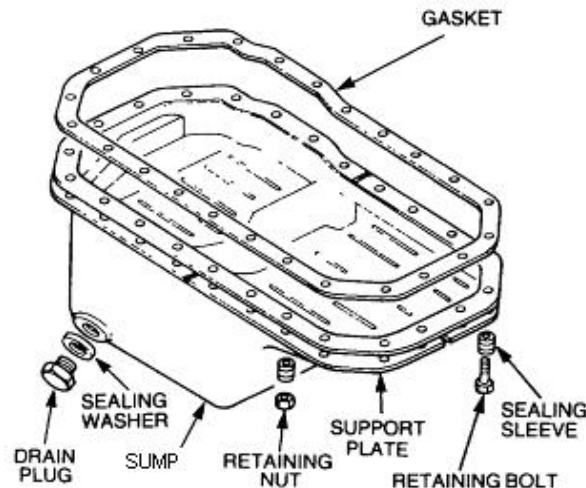

Figure 14 Engine Sump Removal
- e. Remove the sump and supporting plates (Figure 14).